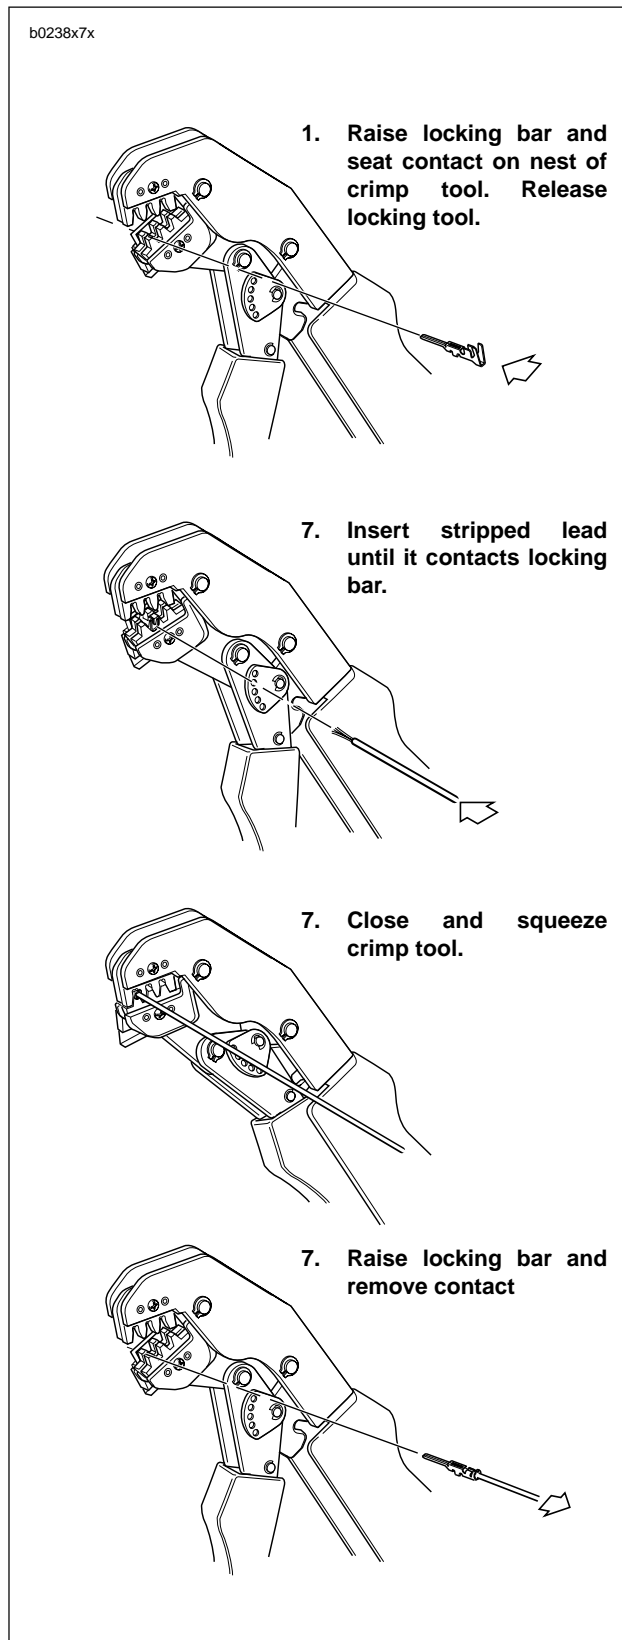

Figure B-7. Amp Multilock Crimping Procedure
1. See Figure B-7. Squeeze the handles to cycle the AMP TERMINAL CRIMP TOOL (Part No. HD-41609) to the fully open position.
6. See Figure B-7. Inspect the quality of the core and insulation crimps. Distortion should be minimal.